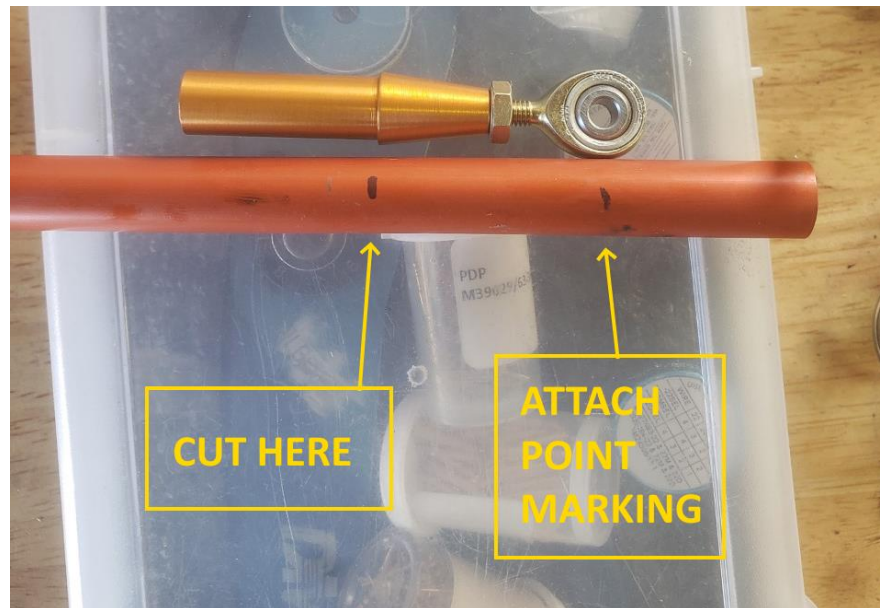

FIGURE 0-2 PUSH PULL TUBE TRIMMING
3. The MM3 rod end should have four (4) threads showing at each end.
9. With ailerons in the neutral position mark the RH aileron attach point on the open end of the tube with a sharpie, or equivalent marking device. Refer to Figure 0-2.
10. Remove the 1006231-1 tube from the aircraft and on the open end of the tube place the provided rod-insert bolt hole next your mark. (with 4 threads showing on the rod end). Make a new marking on the tube at the base of the taper of the insert. Cut the tube at the new marking. Refer to Figure 0-2.